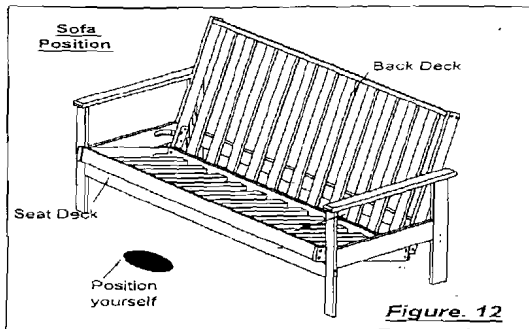

Figure 12
1. Position yourself in front of the seat deck. ( figure 12 )